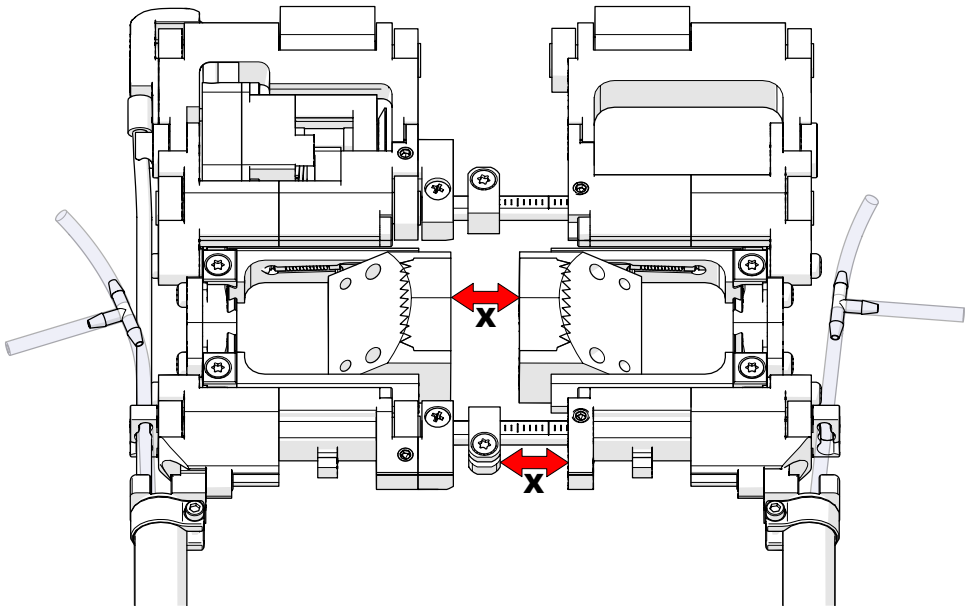

Fig. 77 - Set precise wedge separation
8. Slide the two sides apart until desired wedge separation is achieved (Fig. 77). Use the graduations on the crossbar for precise positioning. The graduations indicate millimeter measurement.